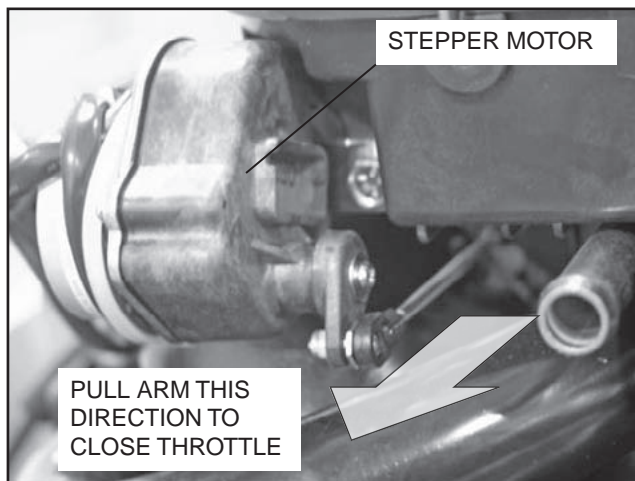
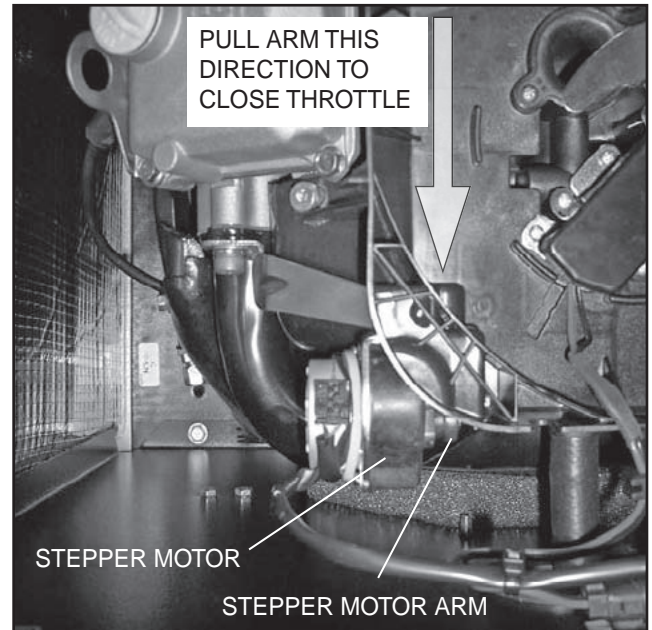

Figure 9. Throttle Positions 9/10 kW Units
Figure 11. Throttle Positions 13/16 kW Units
3. Physically move the throttle to the closed position by pulling the stepper motor arm towards the idle stop. See Figures 9 and 10 (for 9/10 kW units) or Figure 11 (for 13/16/18 kW Units).